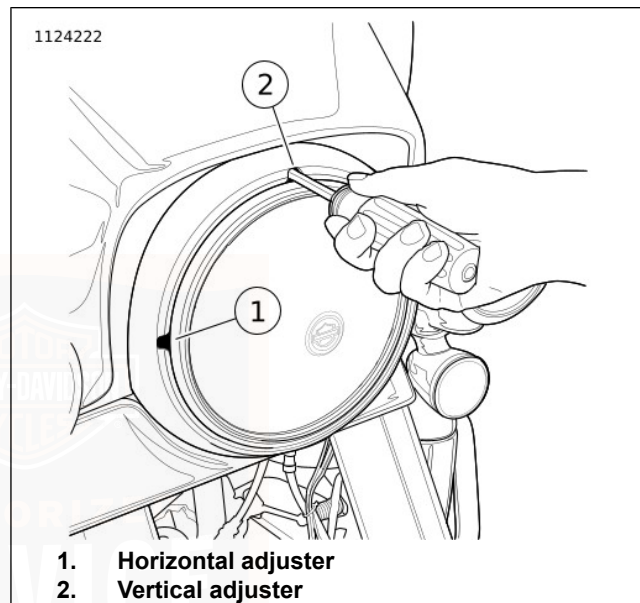

Figure 95. Headlamp Adjusters: All except Frame-Mounted Fairing (typical)
2. **All except frame-mounted fairing:** See Figure 95. Insert a 5/32 in ball end hex wrench through adjuster slots in trim ring.
- a. **Horizontal:** Turn the horizontal adjusting screw (1) to adjust light beam left and right.
- b. **Vertical:** Turn the vertical adjusting screw (2) to adjust light beam up and down.